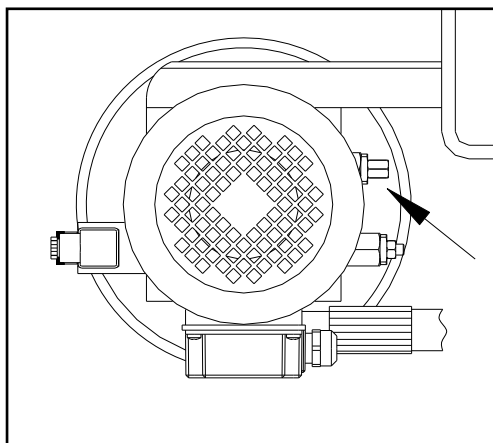

Fig. 11
- ◆ The maximum pressure valve (Fig. 11), located on the hydraulic oil power unit, will trip if the lift is overloaded.